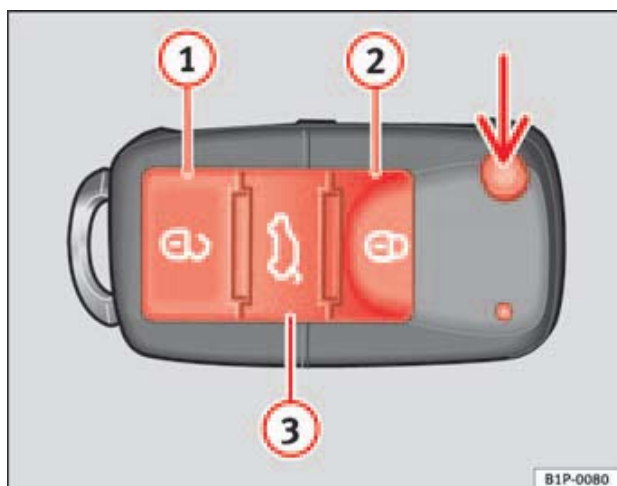

Fig. 63 Assignment of buttons on the remote control key
Using the button \Rightarrow fig. 63 (arrow) on the control, the key shaft is released.
Unlocking the vehicle \Rightarrow fig. 63 ① . The doors and the tailgate are unlocked.
Locking the vehicle \Rightarrow fig. 63 ②
Unlocking the tailgate. Press the button \Rightarrow fig. 63 ③ until all indicators on the vehicle briefly flash. When the unlocking button \Rightarrow fig. 63 ③ is pressed, 2 minutes remain for opening the door. Once this time has passed, it will lock once more.
Also, the battery indicator on the key \Rightarrow fig. 63, will flash.
When the button \Rightarrow fig. 63 ① is pressed once the driver's door is unlocked, all others remain locked.
- Lock the vehicle using the driver side door lock with the remote control key ⇒ page 100, fig. 63.